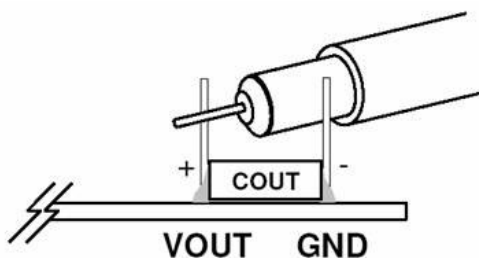

Figure 2. Measuring Input or Output Ripple Directly Across Bulk Capacitor
**NOTE:** When measuring the input or output voltage ripple, care must be taken to avoid a long ground lead on the oscilloscope probe. Measure the input or output voltage ripple by touching the probe tip directly across the  $V_{IN}$  or  $V_{OUT}$  and GND terminals or directly across the capacitor. See Figure 2 for proper scope probe technique.